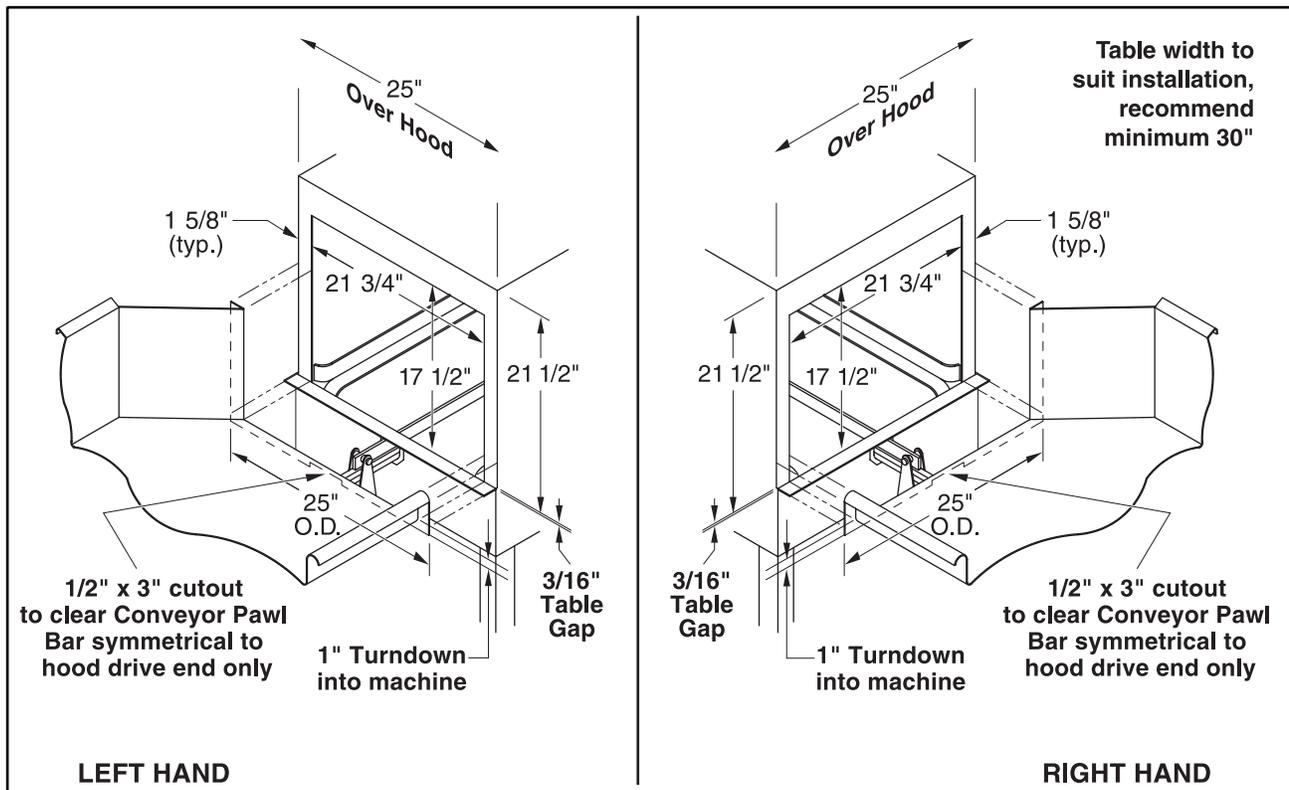

Figure 2: Table Connection
1. Position the table lip or turndown at both ends of the dishwasher. Make sure to seat the lip or turndown into the dishwasher as illustrated in Figure 2.
3. Using Figure 2 as a guide, mark the lip or turndown of the dish table for the required cutout to clear the Pawl Bar.
4. CAREFULLY cut the lip or turndown as illustrated in Figure 2. Deburr all sharp edges before reinstalling.